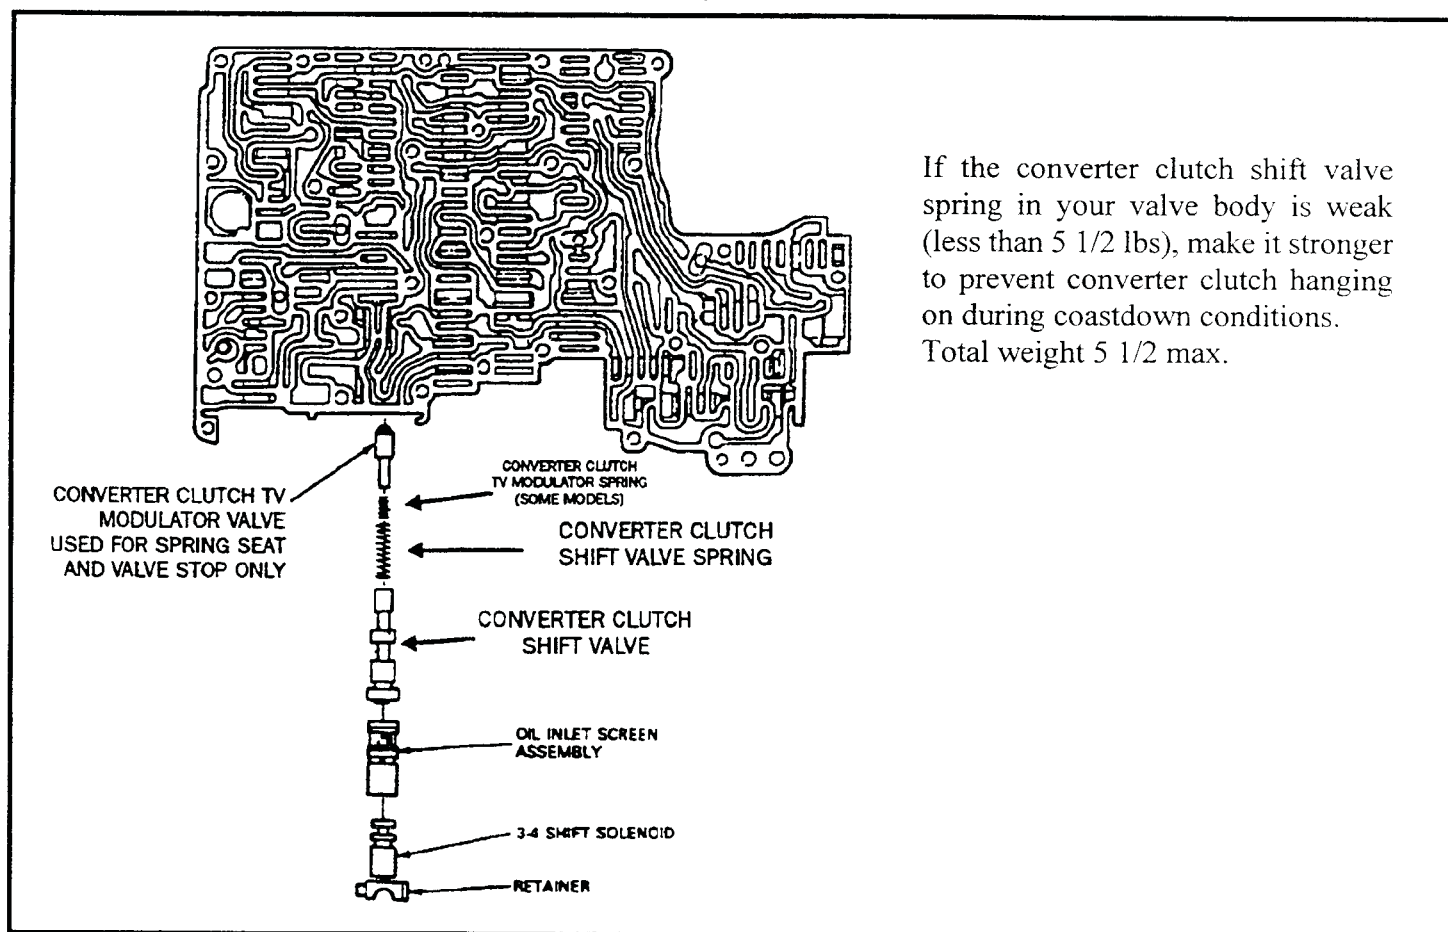

Figure 80
- (3) Replace the converter clutch shift valve spring with a stronger spring. This spring weighs about 5 lbs. in single solenoid valve bodies, and about 2 lbs in double solenoid valve bodies. (See Figure 80). Increase the tension in double solenoid valve bodies by 2 - 2 1/2 lbs. to about 4 1/2 - 5 1/2 lbs. maximum total weight.